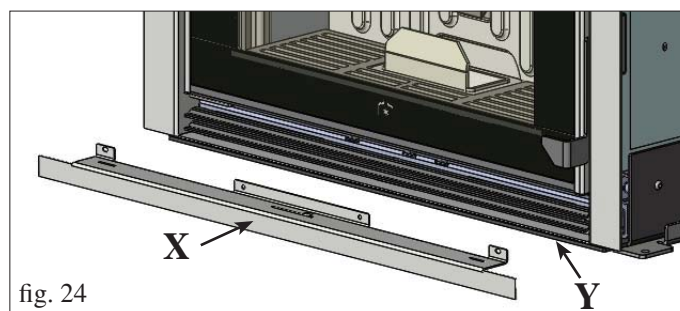

fig. 24
After removing the lower grille, you can mount, on the lower base of the structure, the “angular” metal finishing profile (X – for “frame” coverings or plasterboard) in place of the metal profile plate (Y) previously mounted (see Fig. 24).